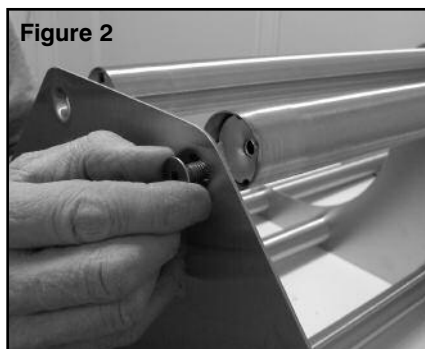

Figure 2
Align remaining (5) Cross Tubes between End Panels - Secure with Flat Head Bolts provided (**Figure 2**).